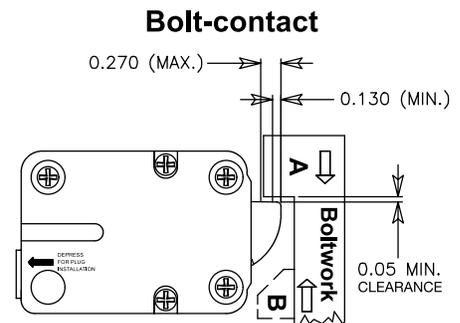

Figure 16
**NOTE:** In case of boltwork construction where two blocking parts are moving opposite one another, the one facing the round side of the lock bolt "B" should be cut off to avoid jamming of lock bolt (Figure 16).